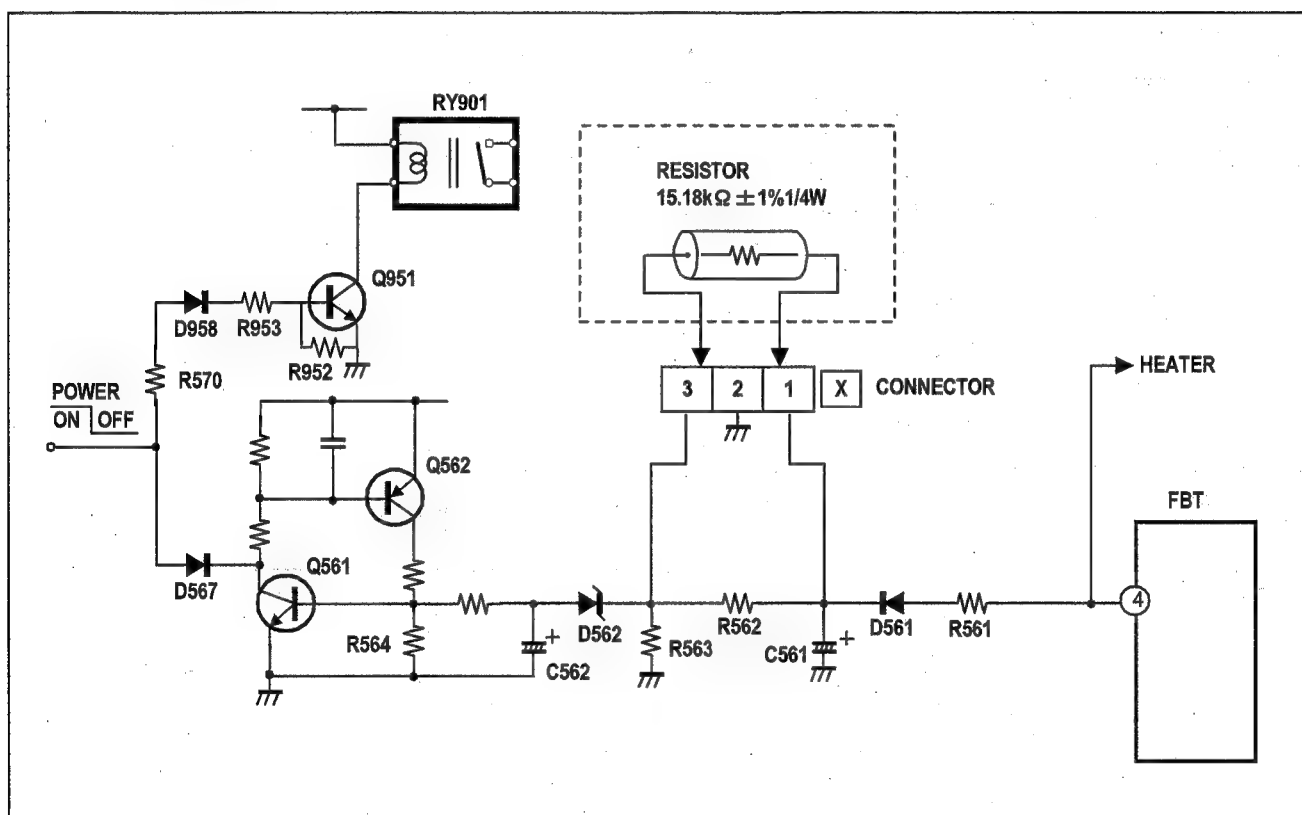

Fig. 1
After repairing the high voltage hold down circuit shown in Fig. 1.
- (1) Turn the POWER SW ON.
- (2) As shown in Fig. 1, set the resistor (between [X] connector [1] & [3] ).
- (3) Make sure that the screen picture disappears.
- (4) Temporarily unplug the power cord.
- (5) Remove the resistor (between [X] connector [1] & [3] ).
- (6) Again plug the power cord, make sure that the normal picture is displayed on the screen.